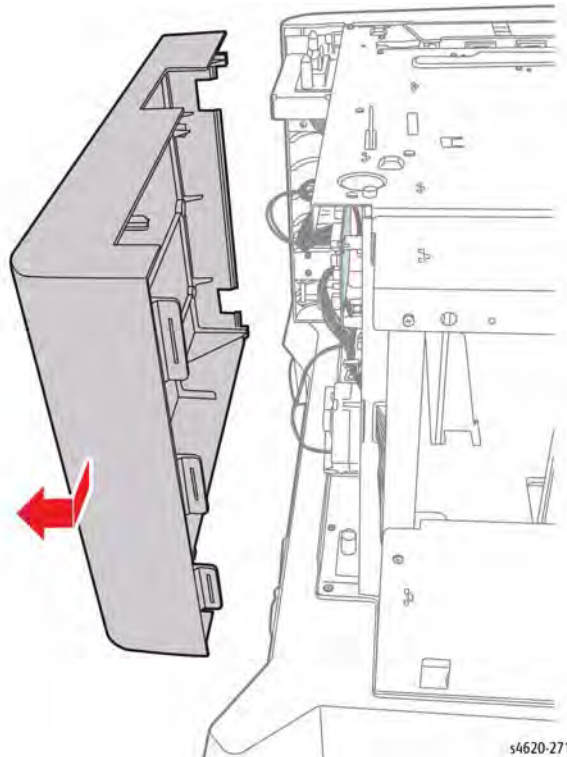

Figure 1 Remove the right cover
2. Slide the right cover to the rear to release the hooks that secure the cover to the chassis, Figure 1.